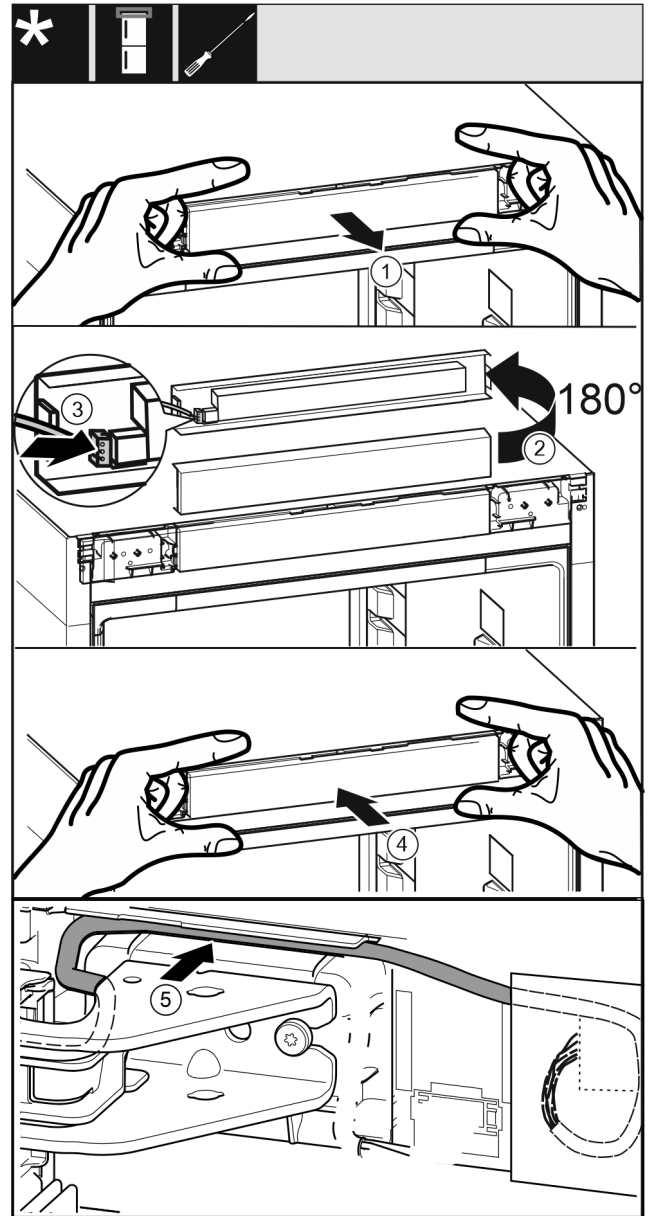

Fig. 43
- ▶ Take out the control panel carefully. Fig. 43 (1)
- ▶ Turn the panel upward through 180°. Fig. 43 (2)
- ▶ Engage the plug on the control panel. Fig. 43 (3)
- ▶ Latch the control panel into the appliance again. Fig. 43 (4)
- ▶ Carefully position the gray cable in the guide above the top bearing bracket. Fig. 43 (5)